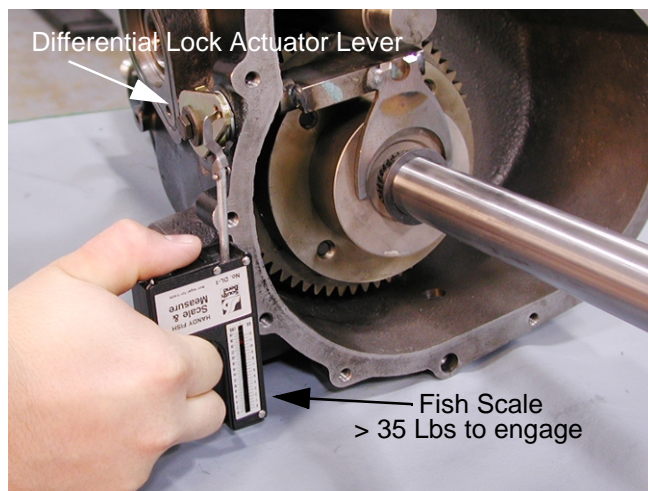

Figure 20
28. Pull on the differential lock actuator using a fish scale, and make certain the differential engages with less than 35 pounds of pull. See Figure 20.